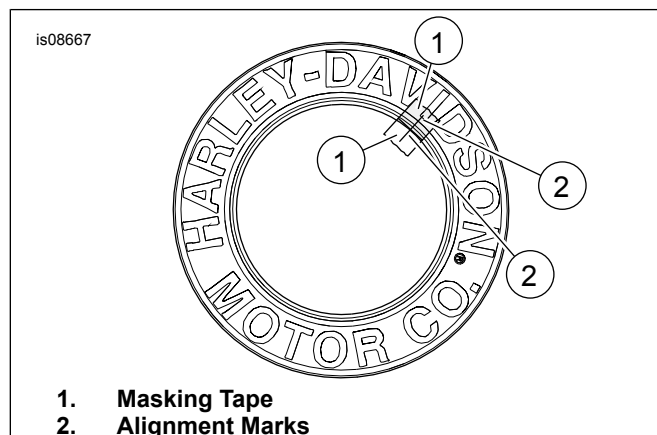

Figure 1. Fuel Cap Medallion
3. See Figure 1. Rotate the medallion into the desired position and place a reference mark on the medallion and on the fuel cap.